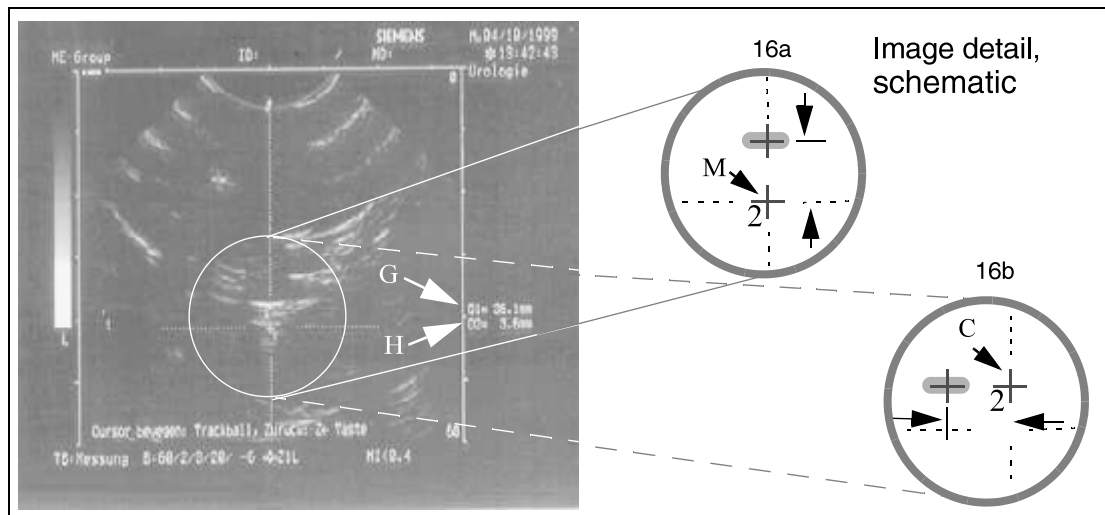

Fig. 85: Checks_02
Checking the distance: Height (16a/ Fig. 85 / p. 81)
- The value displayed for “D1” (G/ Fig. 85 / p. 81) must be between 33 and 36 mm; if not, move the probe appropriately in the longitudinal axis.
- Use the track ball to move the “+2” cross to the longitudinal axis of the target line into the isocenter (16a/ Fig. 85 / p. 81).
- Move the "+2" cross using the track ball horizontally into the center of the white area (16a/Fig. 85 / p. 81) of the isocenter phantom.
- The value displayed for "D2" (H/Fig. 85 / p. 81) must be between 1 and 5 mm. This is only valid for the default values, see instructions SPL1-130.038.01... .
Checking the distance: Page (16a/Fig. 85 / p. 81)
- Move the "+2" cross using the track ball onto the horizontal axis of the target line (C/Fig. 85 / p. 81).
- If the center point of the white area (16b/Fig. 85 / p. 81) is not in the isocenter (permissible difference ± 0.5 mm from the center):
If the display of the ball (16b/Fig. 85 / p. 81) appears to the left of the isocenter, the correction value must have a negative sign (to the right it must have a positive sign).
- Set half the value of D2 (H/Fig. 85 / p. 81).
Example (H/Fig. 85 / p. 81) D2 = 1.2 mm ⇒ Enter: -06
- Check the deviation; if the white area (16b/Fig. 85 / p. 81) is not in the center of the isocenter, repeat the procedure.